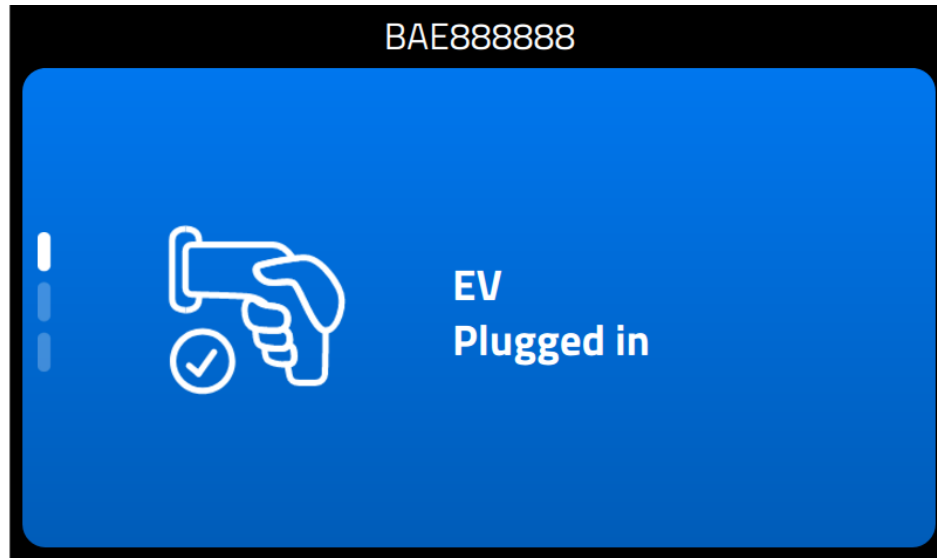

Fig. 58 – EV Plugged in
- Fig. 58 demonstrates a system that has been plugged in and waiting for authorization.